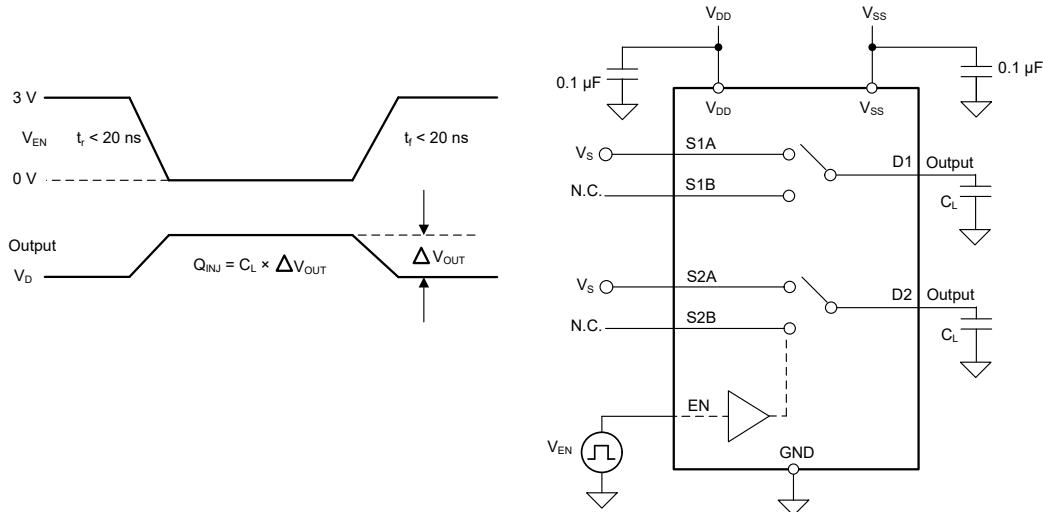

Figure 7-9. Charge-Injection Measurement Setup
The TMUX6236 has a transmission-gate topology. Any mismatch in capacitance between the NMOS and PMOS transistors results in a charge injected into the drain or source during the falling or rising edge of the gate signal. The amount of charge injected into the source or drain of the device is known as charge injection, and is denoted by the symbol  $Q_{INJ}$ . Figure 7-9 shows the setup used to measure charge injection from source (Sx) to drain (D).